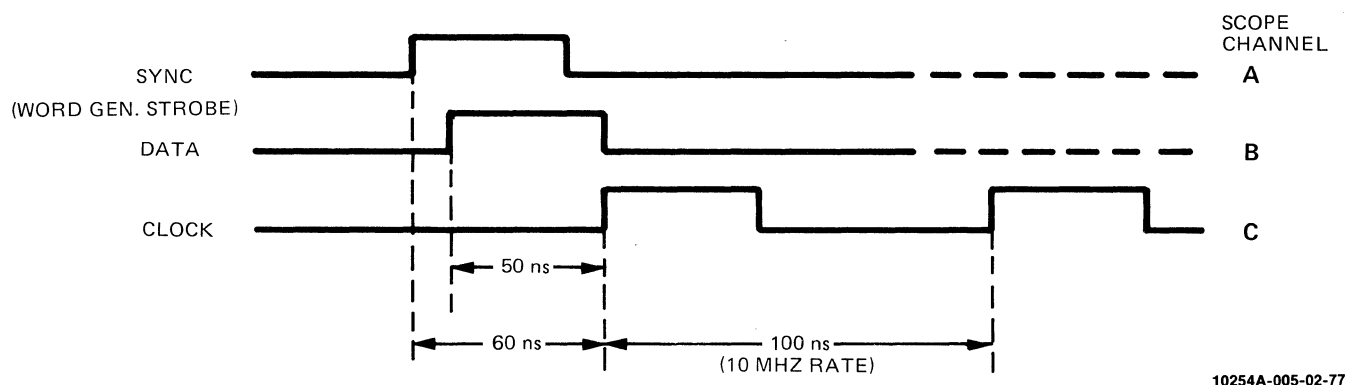

Figure 5. Performance Test Waveforms
g. Adjust word generator BIT RATE VERNIER, RZ WIDTH VERNIER, STROBE DELAY VERNIER, CLOCK DELAY VERNIER, WORD DELAY VERNIER for timing waveforms shown in figure 5.
g. Adjust word generator BIT RATE VERNIER, RZ WIDTH VERNIER, STROBE DELAY VERNIER, CLOCK DELAY VERNIER, and WORD DELAY VERNIER for timing waveforms shown in figure 5.